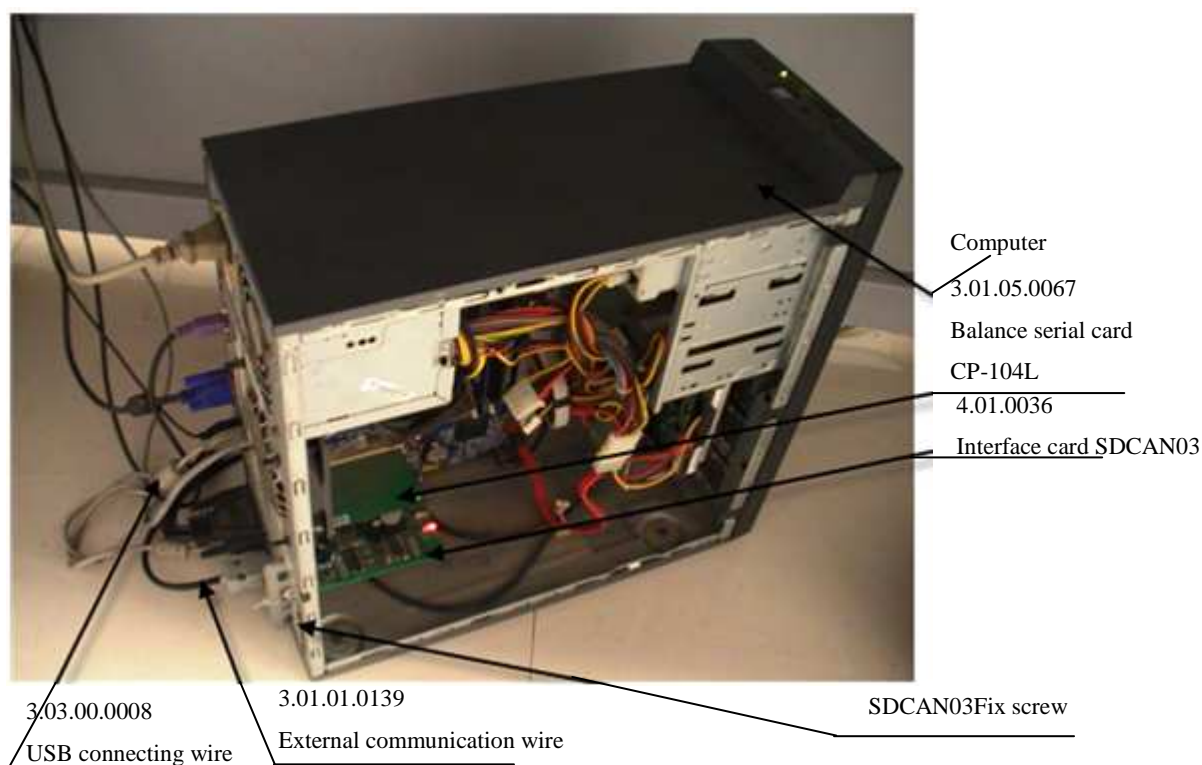

Fig.3-17
- Open the computer host cabinet and insert the balance serial port card and interface card into PCI slot and fix it properly. Shown as Fig.3-17.